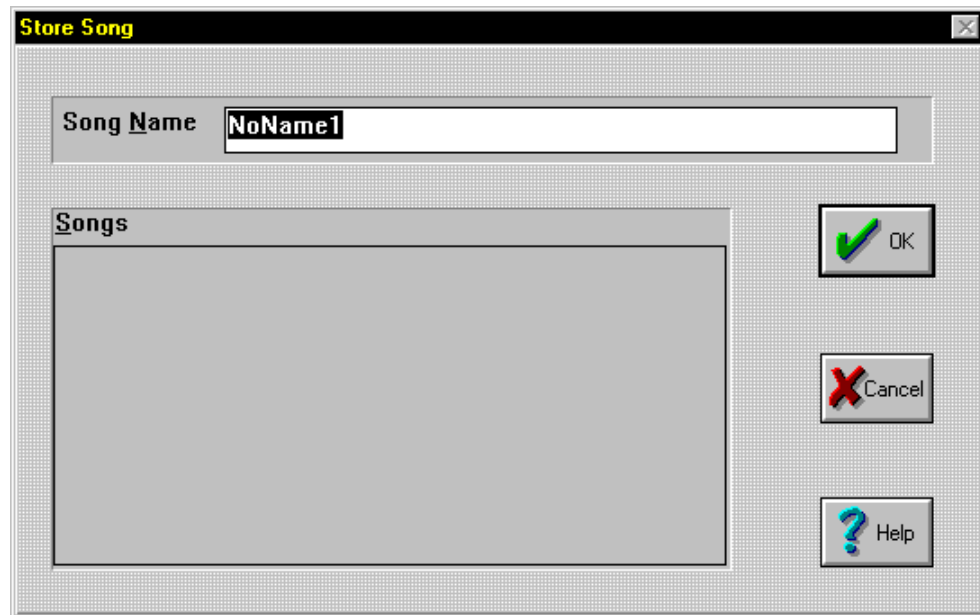

Figure 7.17. Store Song Dialogue Box
3. Click **Yes** to save the current Song or **No** to discard the changes and open a new Song. If **Yes** is chosen, the **Store Song** dialog box will appear. Refer to Figure 7.17.
2. Press the <STORE> key in the MEMORY group (Figure 7.15). This will bring up the **Store Song** dialogue box. Refer to Figure 7.17. Alternately, select **Store** from the **Memory** drop-down menu.